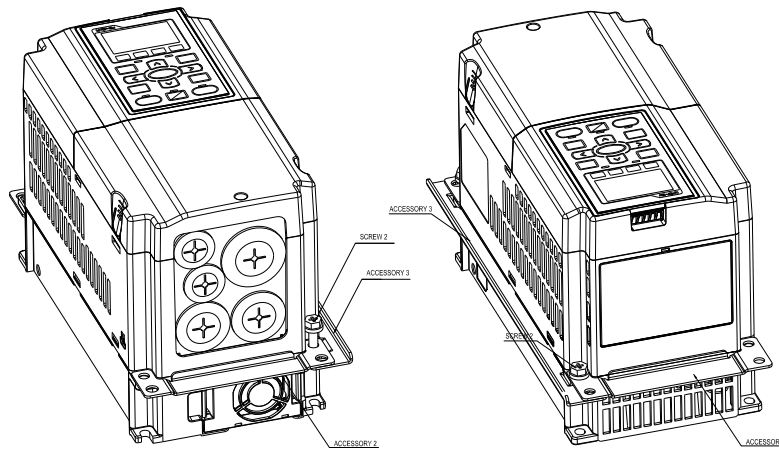

Figure 2
2. Install accessory 2&3 by fastening 2 of the screw 2(M6) (figure 2). Screw torque: 25~30 kg-cm / [21.7~26 lb-in.] / [2.5~2.9 Nm]